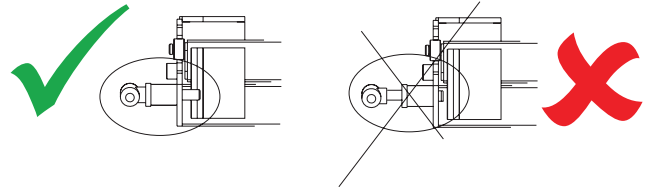

Figure 3-13
2. When the Swing-Away is fully closed, the T-handle will be fully retracted. *See Figure 3-13.*
Be sure to stay clear of the latching mechanism to avoid personal injury. *See Figure 3-13.*